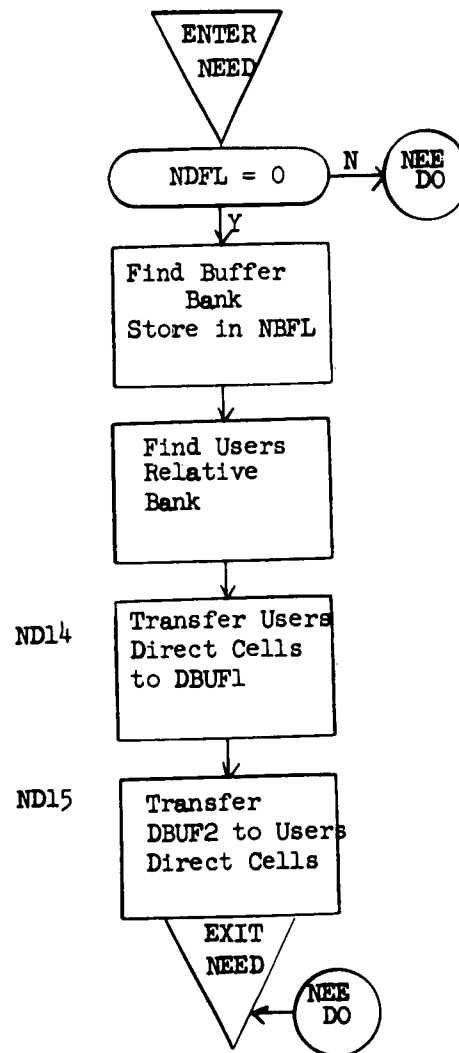

Figure 7.3 NEED Subroutine
7.2.2 NEED Subroutine (Figure 7.3)